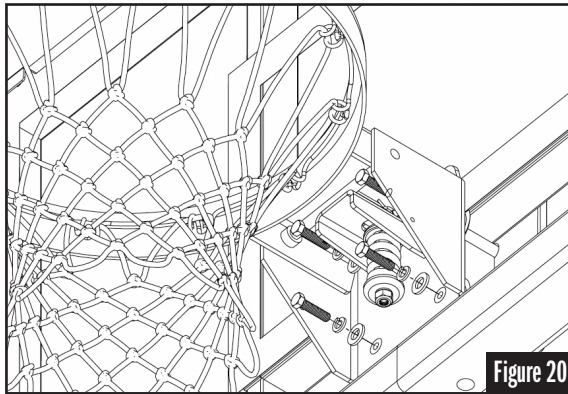

Figure 20
STEP 12: Align the Rim on the Backboard and secure the hardware into the tubes. Hand tighten only. Replace the Cover on the Rim. See Figures 20 & 21. Note: Use of impact driver may damage threads and is not recommended.